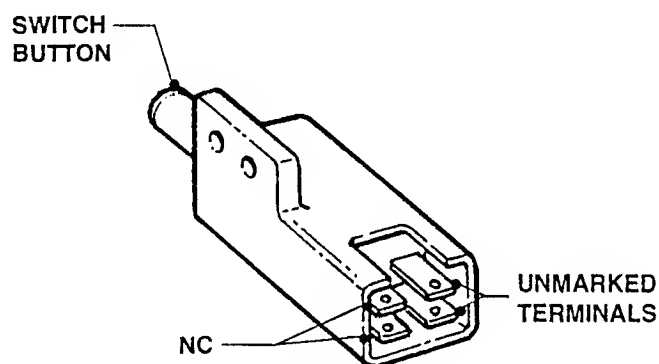

FIGURE 3.9
1. Disconnect the Wires from the four Switch Terminals. See Figure 3.9.